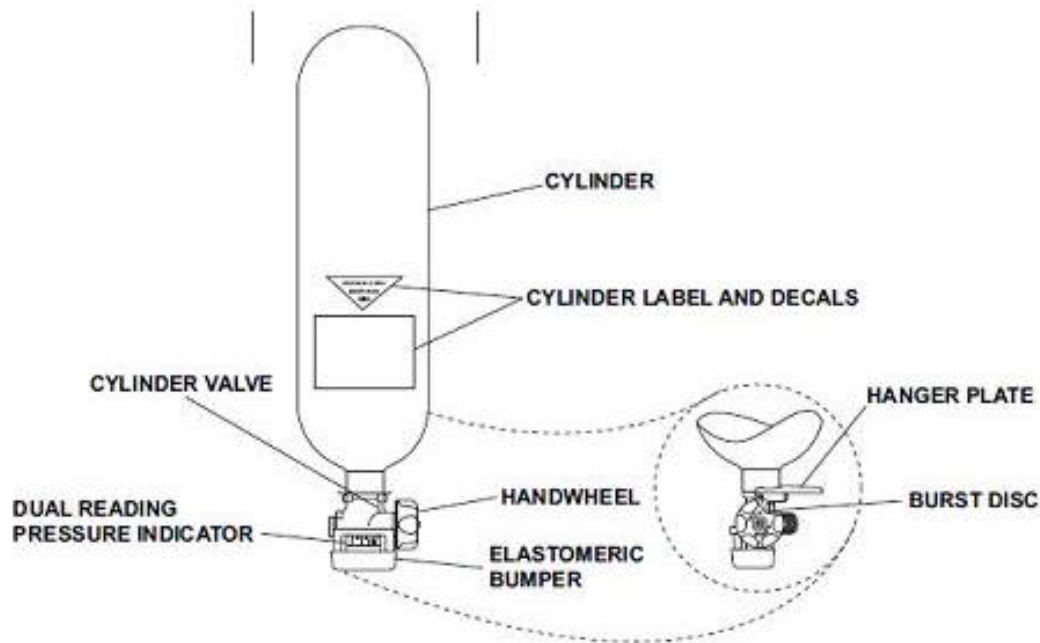

Figure 551-8ST-1004\_10 (Cylinder Assembly)
(8) Remove the mask-mounted regulator from the second bucket of rinse water and shake lightly to remove any water trapped in the mask-mounted regulator.
(9) Wipe the mask-mounted regulator dry with a lint free rag and/or allow the maskmounted regulator to air dry. Do not dry the mask-mounted regulator with a heater or in direct sunlight.
(10) When the mask-mounted regulator is dry, stow it in the back frame and harness assembly protective holder.
c. Clean the back frame and harness assembly after use. (Figure 551-8ST-1004\_04)
d. Clean the cylinder assembly weekly. (Figure 551-8ST-1004\_10)